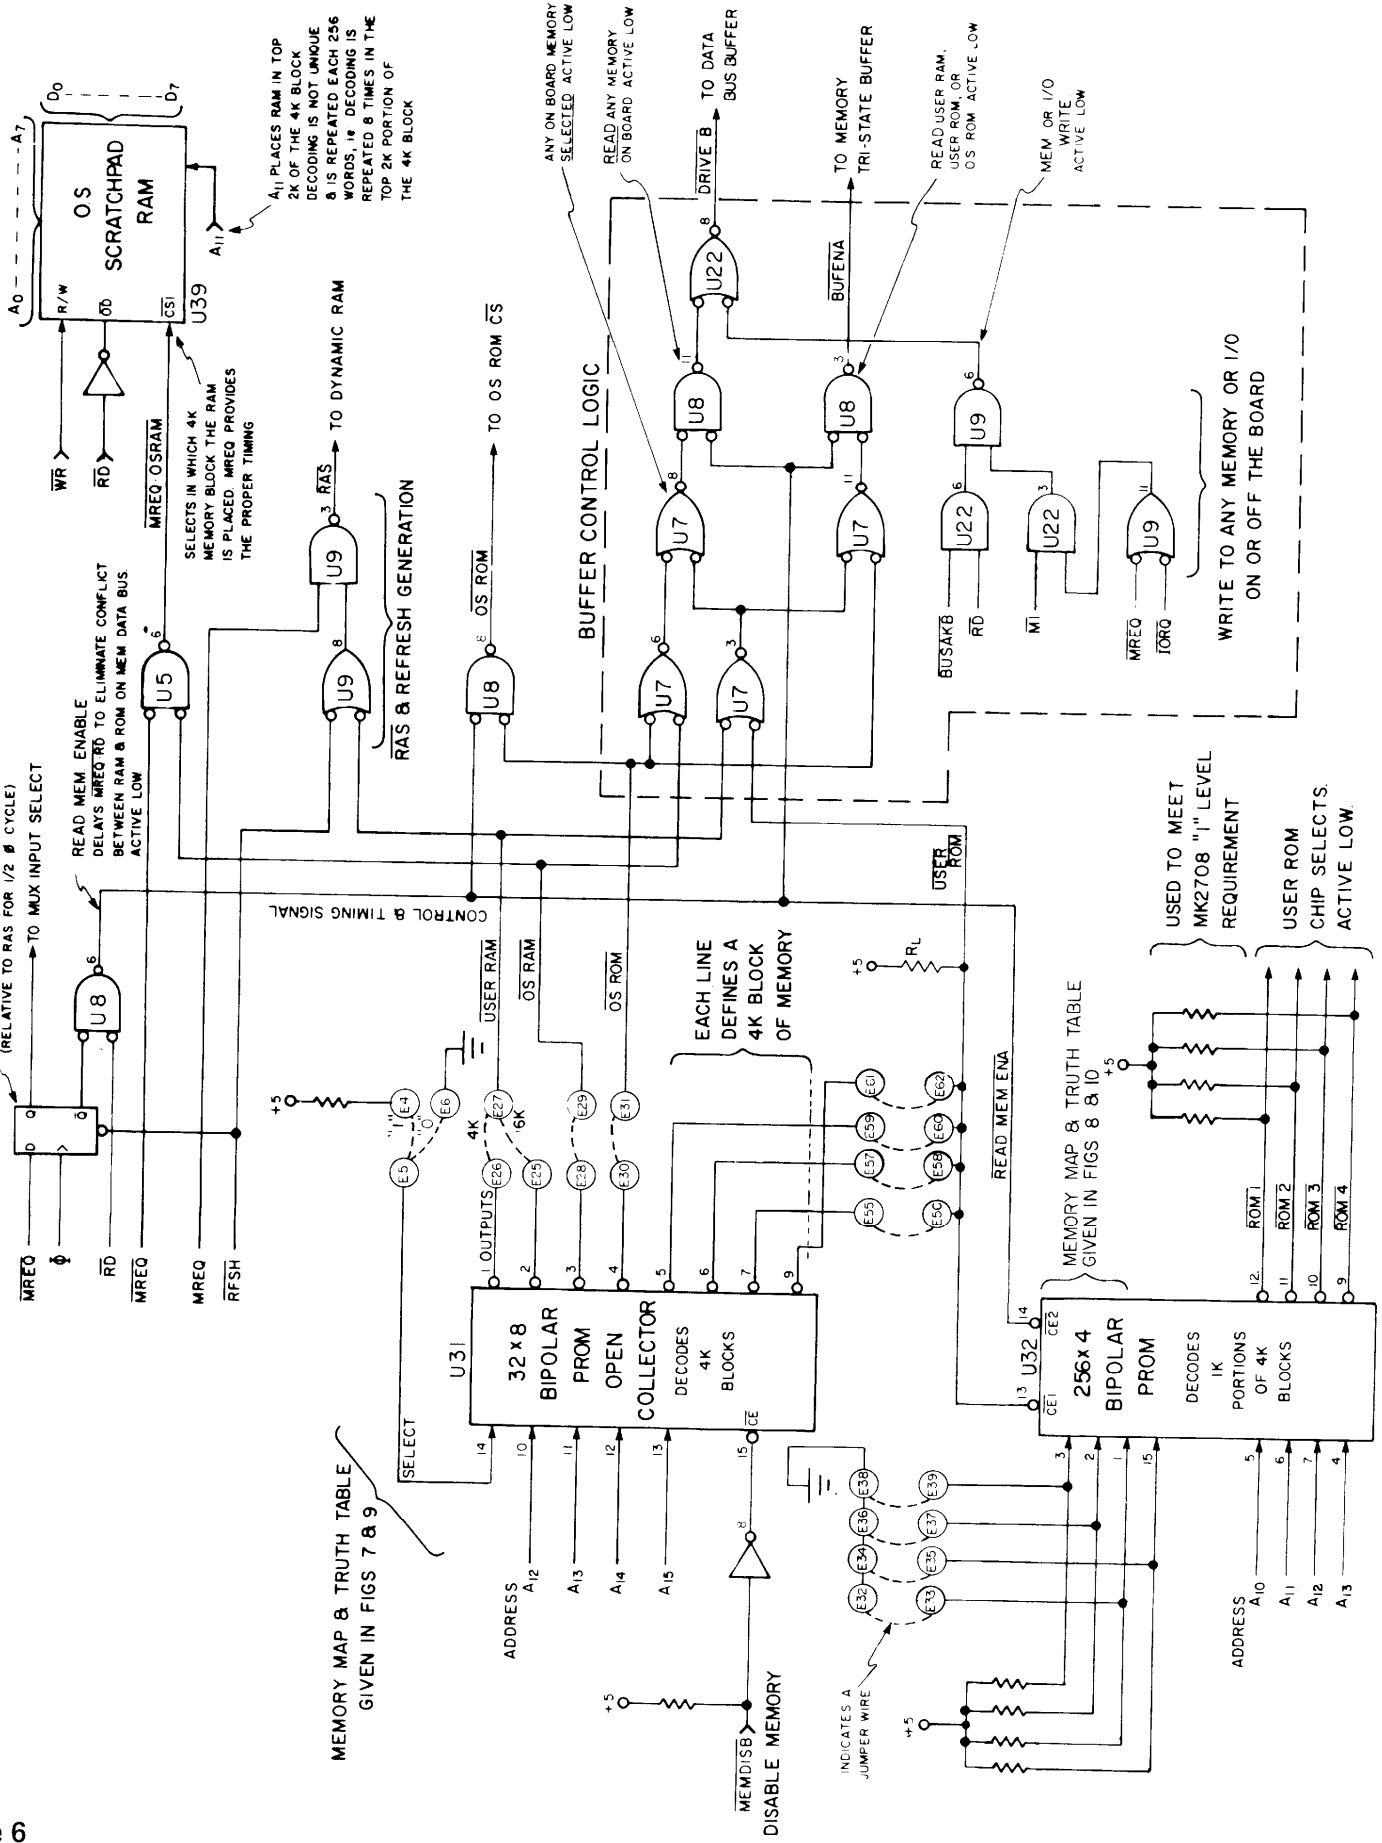
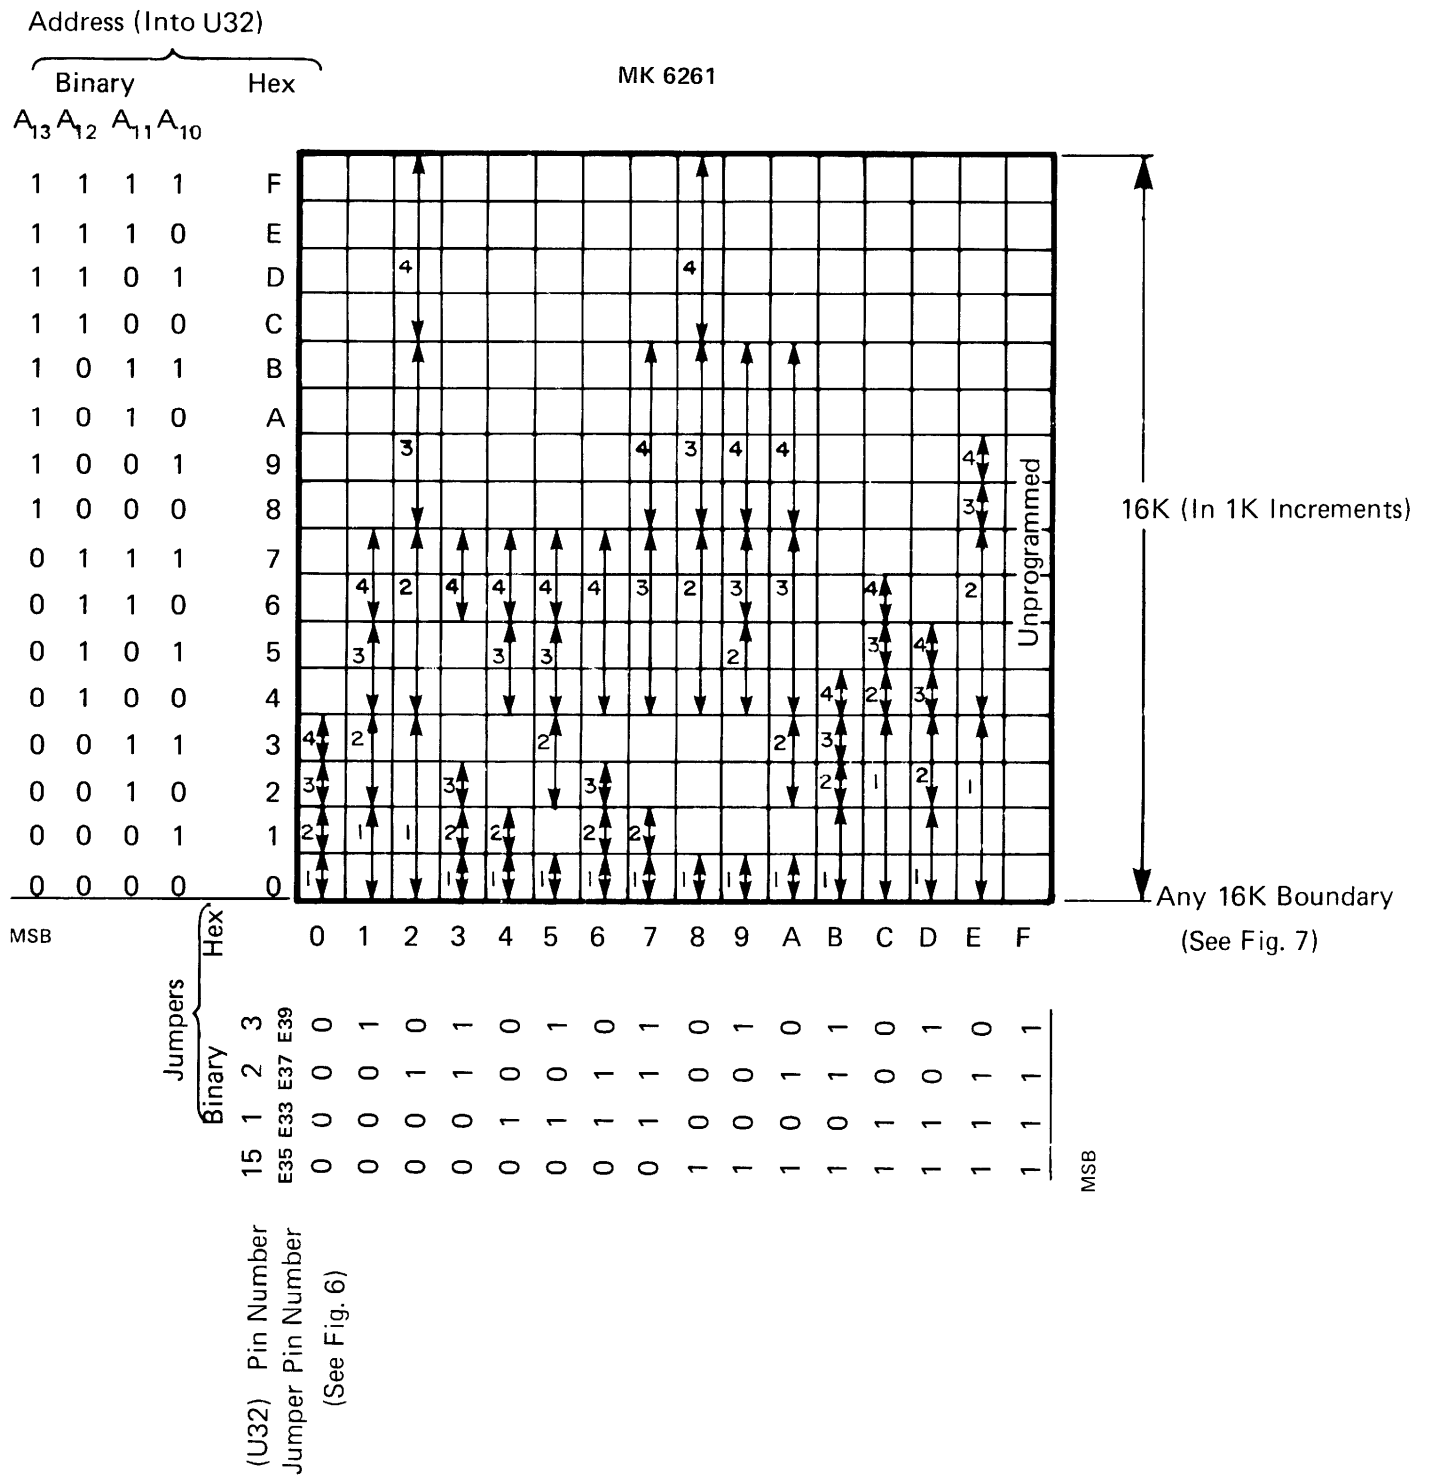

Figure 6
Figure 8
(refer to the schematic of Figure 6)
If all ROM/PROM were in 4K blocks then the only decode necessary would be U31 (and the map in Figure 7). However, because of 1K and 2K ROM/PROMS it is necessary to subdivide the 4K blocks of Figure 7. This is the function of the bipolar PROM U32; to decode 1K memory segments. U31 decodes specific 4K blocks, then enables U32, which in turn divides each block into four 1K segments. Specific USER ROM memories are selected by the lines  $\overline{\text{ROM 1}} - \overline{\text{ROM 4}}$  (See Figure 6). The map of U32 is shown in Figure 8.
This map is a 16K subset of the more general map shown in Figure 7. Note that Figure 7 is divided into four 16K areas. Figure 8 represents an expanded view of any one of these areas. It must start on a 16K boundary line. This is true basically because two of the address lines to U32 are common with U31 ( $A_{12}$  &  $A_{13}$ ).
1) Assume the SDB-80 is to have a 4K RAM starting at  $0_H$  with four 1K PROMS (2708s) elsewhere in the map. The 4K RAM would be placed by connecting "output 1" to " $\overline{\text{USER RAM}}$ " and  $E5 = 0$ . The PROMs would be placed by connecting "output 7" to " $\overline{\text{USER ROM}}$ " and selecting jumper combination  $0_H$ . The PROMs have been located in the 4K space between  $C000_H$  and  $CFFF_H$ . Referring to Figure 8, column  $0_H$  shows four contiguous sockets (1, 2, 3, and 4) starting at the 16K boundary. The low address PROM would be placed in socket 1, the next higher address PROM in socket 2, etc.
3) Assume it is desired to have 16K of RAM starting at address  $0_H$  while also supporting 16K of ROM (for example, four 4K parts containing development system firmware). The RAM would be placed by "output 2" connected to " $\overline{\text{USER RAM}}$ " and  $E5 = 0$ . The ROM would be placed by Wire-Oring "outputs 5, 6, 7, 9" together, connecting to " $\overline{\text{USER ROM}}$ " (to create a 16K space between  $A000_H$  &  $E000_H$  on Figure 7), and selecting jumper combination  $2_H$  (Figure 8). Jumper combination  $2_H$  is the third column from the left in Figure 8 showing the full 16K decoded space.
The low address ROM is not placed in socket 1 as in the previous examples. The problem comes about in the crossing of 16K boundaries. In decoding the four 4K blocks ( $A000_H$  to  $E000_H$ ) the map of Figure 8 must alternate between areas III & IV (depending upon the ROM selected) shown in Figure 7.
When Figure 8 represents area III only the top half of Figure 8 is decoded while for area IV only the bottom of Figure 8 is decoded. Therefore starting at the low address in III the socket that is decoded is socket 3. The next higher address corresponds to socket 4. Going across the 16K boundary the low address memory space ( $C000_H$  to  $D000_H$ ) corresponds to the bottom of Figure 8 and to socket 1 while the next higher address ( $D000_H$  to  $E000_H$ ) will be decoded in socket 2.
- ii) If the PROM U32 has been coded such that Socket 1 is not always the lowest address and Socket 4 is not always the highest address as shown in Figure 8.
- 4) One last example should be sufficient to illustrate this boards mapping technique. Assume one has an OEM application needing only 256 bytes of RAM, three 2K ROMs and two 1K PROMs. The scratch RAM would be sufficient for this application so, "output 3" would be connected to "OS RAM" (jumper E28 to E29). A 2K ROM would be located in Socket 5 ( the 0. S. ROM Socket). To enable this socket "output 4" would be connected to " 0. S. ROM" (jumper E30 to E31). To place the other ROM/PROM jumper point E5 is strapped to E4. Outputs "5" and "6" are connected to "USER ROM: by jumpering E59 to E60 and E57 to E58. This selects the 8K block of memory 000H to 2000H that starts at 000H. To further divide the 8K space into smaller increments one refers to the detailed map of Figure 8. With the jumpers set to DH the four
Because the outputs are active low and because there are fewer active states the truth table is programmed with logic "0s" since these are the states of interest. Figure 10 is basically laid out as a representation of the 16 columns, listed as 0H through FH (the Hex jumper address) shown in Figure 8. The first three column numbers are listed in Figure 10 for reference. Each column number, of course, is the same as the jumper address (in Hex). Each grid line in the truth table represents a 1K memory segment, the same as in Figure 8.